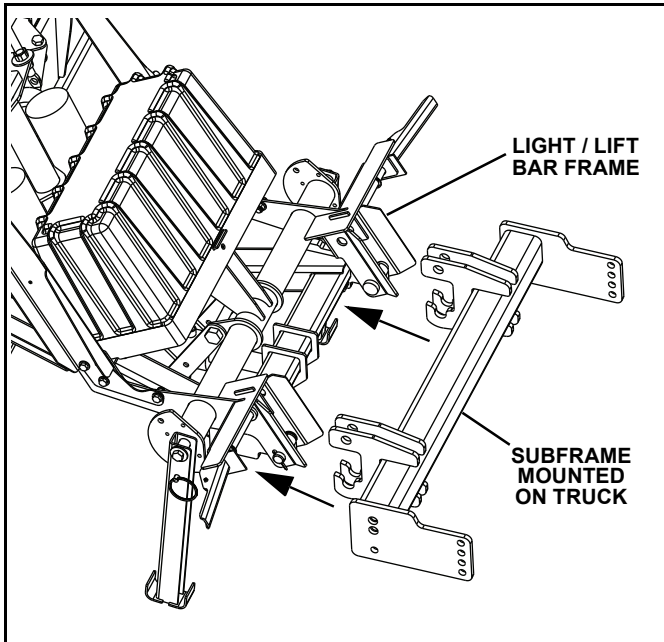

Figure 1-17
1. To mount plow onto truck, position truck to align light/lift bar frame outside of subframe lugs. Pins should fit inside slots cut into subframe lugs. (See Figure 1-17.)